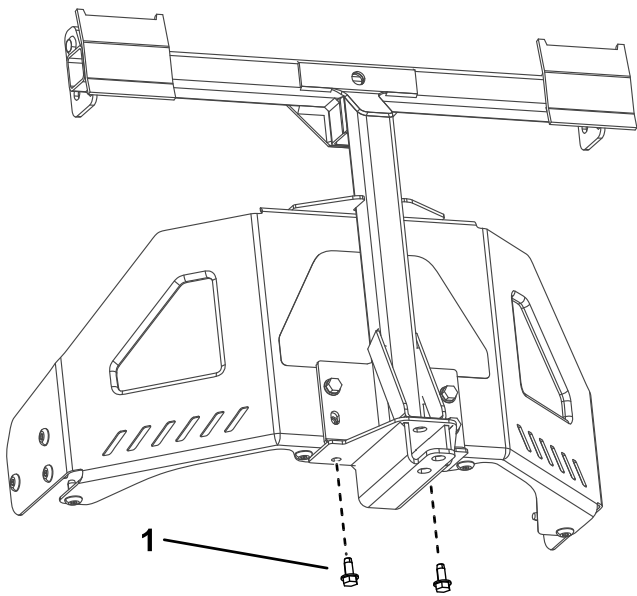

Figure 7
3. Secure the pivot frame to the bottom of the machine frame using 2 self-tapping screws (5/16 x 3/4 inch) as shown in Figure 7.